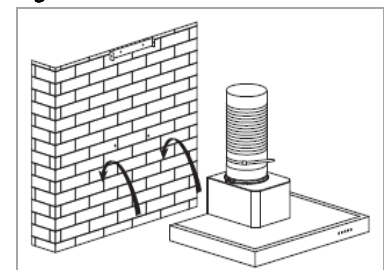

Fig. 4
- Fit the telescoping shaft unit and tighten the lower screws 2x ST4*30mm through the hood body to secure the hood (*Fig. 4*).